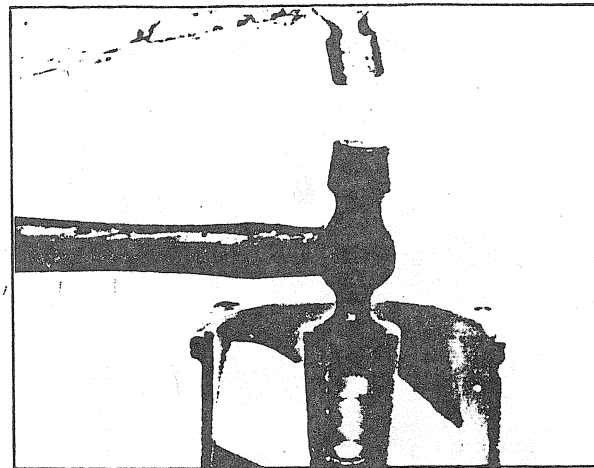

FIGURE 13
- If the glacier bowl was removed, the new replacement must be pressed in until it is flush with its housing. If a press is unavailable, two (2) ball peen hammers can be used to tap the glacier bowl into its housing (fig. 13).